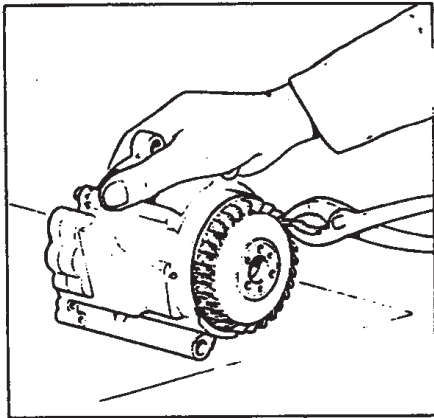

Fig. 14 - REMOVING of CENTRIFUGAL FILTER
- pull off the centrifugal filter fan with slip joint pliers (see fig. 14);